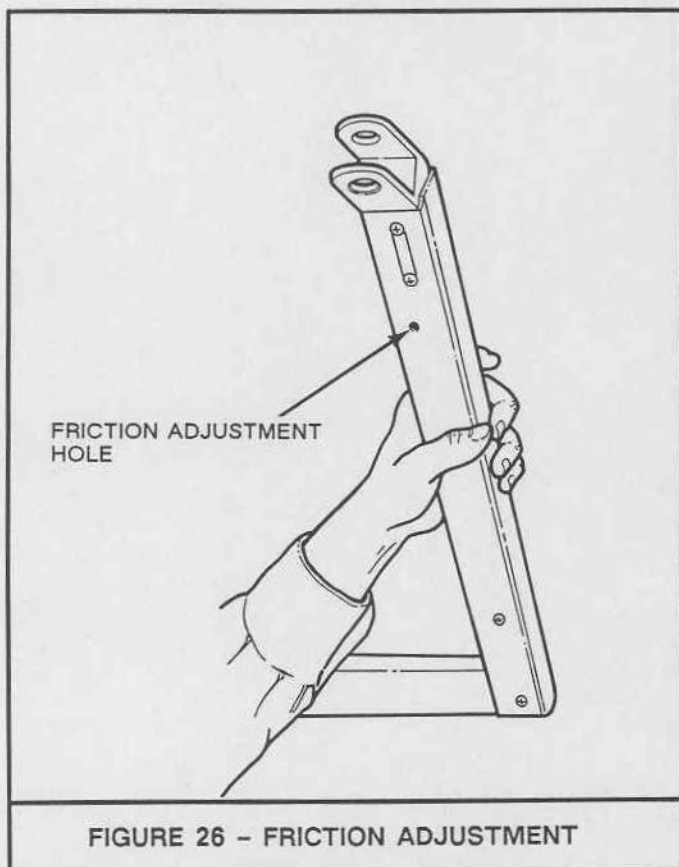

FIGURE 26 - FRICTION ADJUSTMENT
- If up-drift or down-drift occurs, tighten screw (clockwise) with a 9/64" hex wrench through the friction adjustment hole (Figure 26).